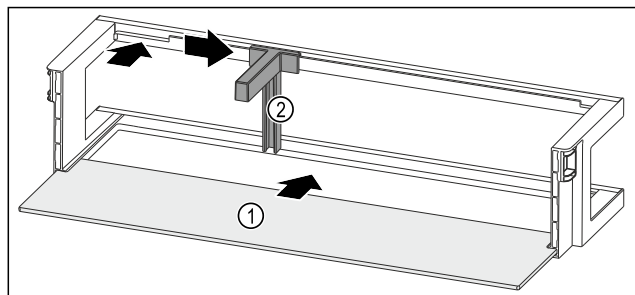

Fig. 156 Door rack with shelf
- ▶ Push the shelf Fig. 156 (1) into the side recesses.
- ▶ Insert the bottle holder Fig. 156 (2) in the recess.
- ▶ Push the bottle holder Fig. 156 (2) to the desired position to the side.